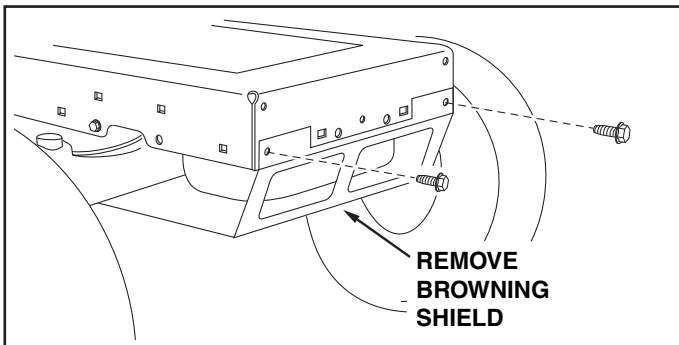

FIGURE 2
STEP 1: (SEE FIGURE 2)
- Reinstall the browning shield removed in figure 2.